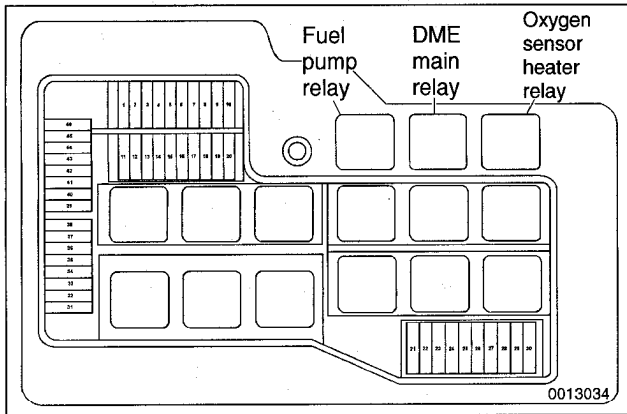

Fig. 6. Engine management relays in the power distribution box, left rear of engine compartment.
*The oxygen sensor heater relay is mounted in the main power distribution box in the left rear of the engine compartment. Refer to Fig. 6. The heater relay is energized with positive (+) battery voltage from the main relay and a switched ground from the ECM. See **Electrical Wiring Diagrams**.*
To operate the fuel pump for testing purposes without having to run the engine, the fuel pump relay can be bypassed to power the pump directly. Fuel pump relay location is shown in Fig. 6.
1. With ignition off, remove main relay. See Fig. 6.
The fuel pump relay is located in the power distribution box. Refer to Fig. 6.